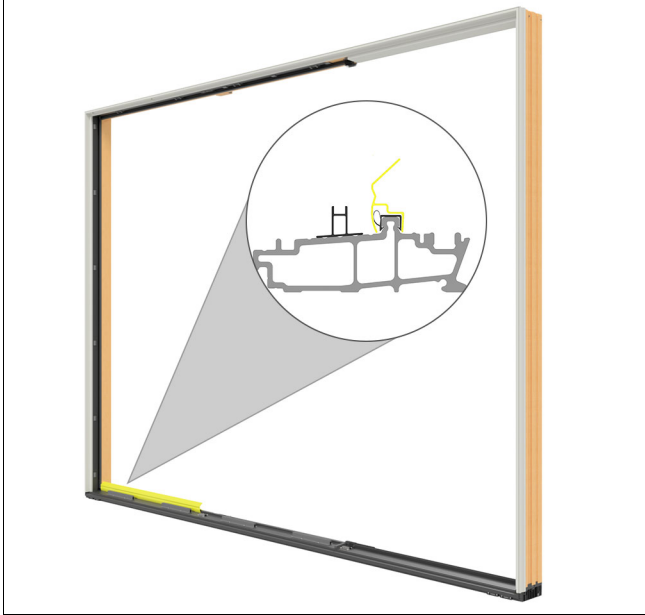

Figure 54
1. Doors with Performance sills only: Install the weatherstrip jig. Install the leading edge of the jig under the weather strip bulb, then rotate the jig so the back edge snaps onto the interior leg of the weather strip. See Figure 54.